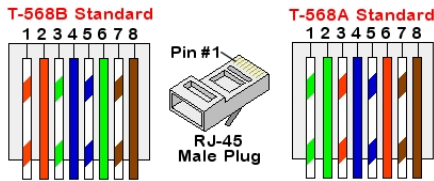

Figure 35: Standard cable wiring
- c. Insert the eight wires into an RJ45 connector, as described in Figure 35
7. For the switch/router side, use a pre-crimped cable or use a crimper to prepare an RJ45 communication connector: Insert the eight wires into the RJ45 connector in the same order as above (Figure 35).